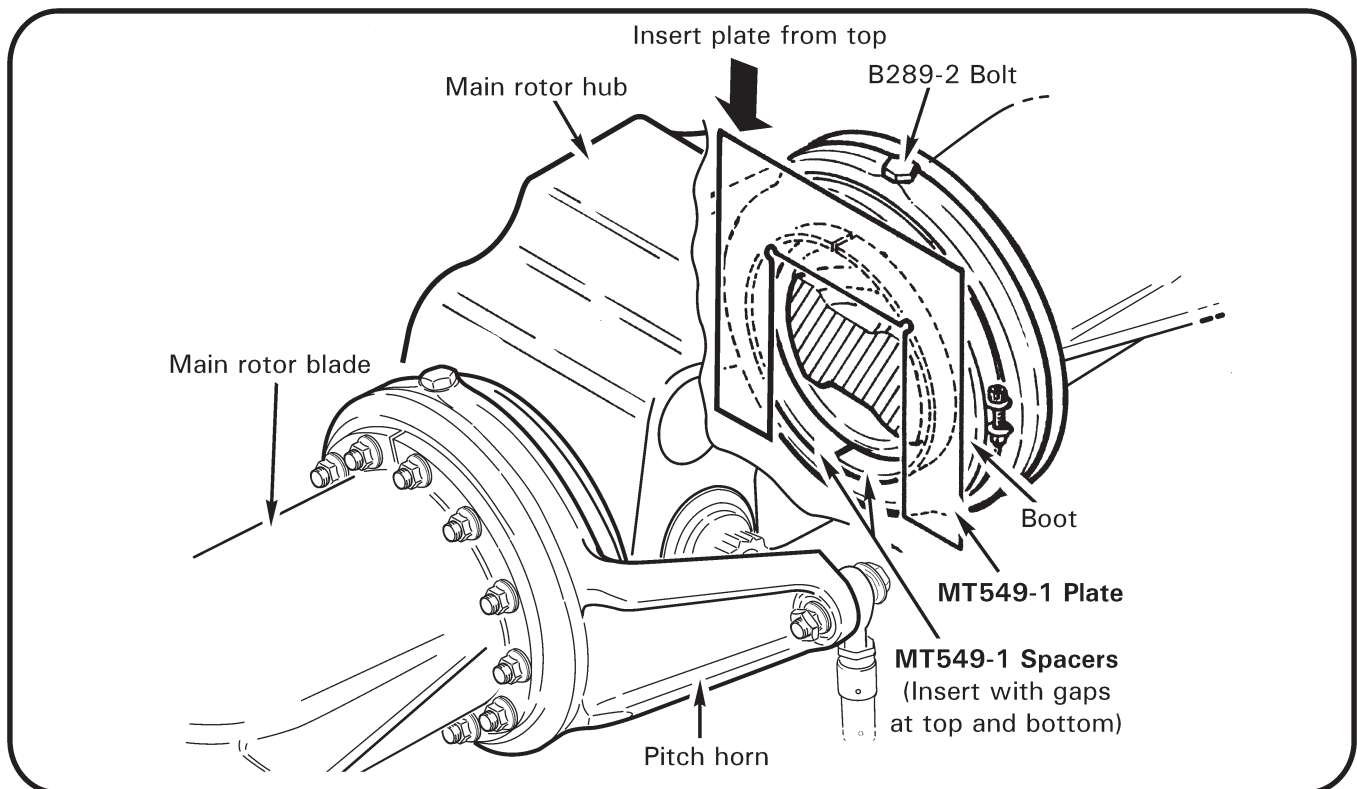

FIGURE 28-3 ADJUSTING BOOT CLEARANCE
13. Refer to Figure 28-3. Insert two MT549-1 spacers between hub and blade boot with gaps at top and bottom. Spacers should fit in recess of boot. Hold spacers in place against boot and insert MT549-2 plate from top between hub and spacers. Push plate down until it contacts spindle.